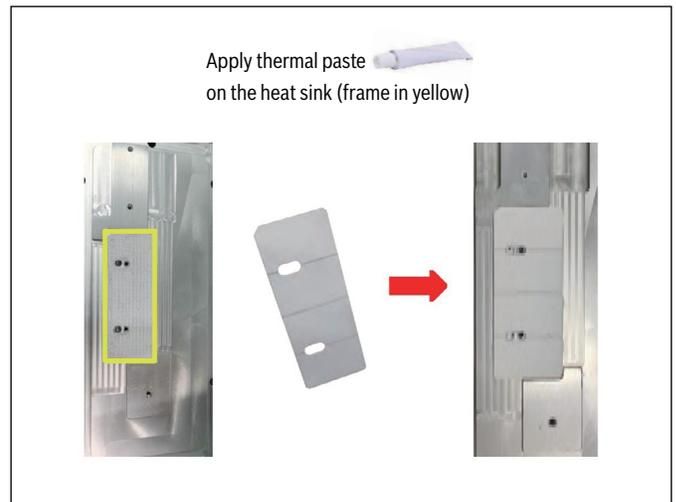

Figure 2
9. Apply a thin and even layer of thermal paste on the heat sink designated location (refer to Figure 2: item framed in yellow).
10. Put the thermal gasket on the heat sink designated location. The side with breakable groove faces out (refer to Figure 2).